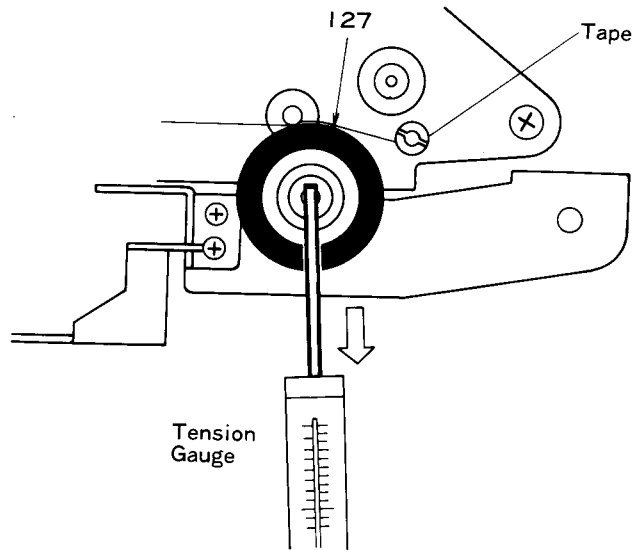

Fig. 9
*** PINCH ROLLER PRESSURE ADJUSTMENT** (Refer to Fig. 9)
- (1) Set the tape loaded on a 7-inch reel.
- (2) Supply power, and shift the function selector knob (005) in playback position and then run the tape.
- (3) When the tape is taken up approximately by half, hook a tension gauge on the pinch roller and confirm the value shown when the tape stops.
- (4) If the set is normal, the pressure of pinch roller (127) is 1.4 ± 0.2 kg.
- (5) If the pressure is out of this range, adjust it by pinch roller lever spring (107).
- (6) At the time, keep the tape selector knob (008) in 19cm/sec position.